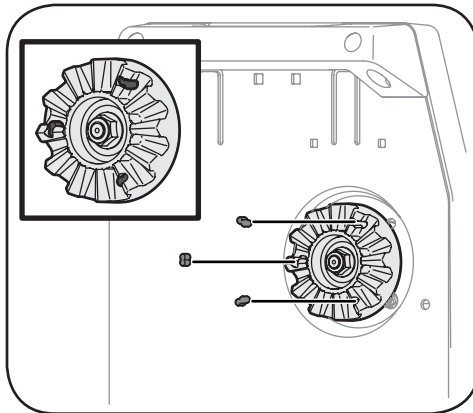

Figure 5-18
- Gently pry each clutch bumper out of the dog clutch using a standard screw driver. See Figure 5-18.